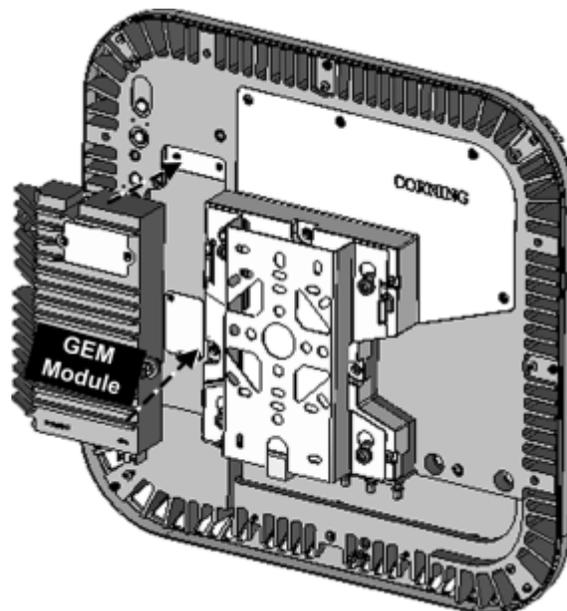

Figure 6-20. GEM Module Assembly
2. Plug GEM into the left side of the RAU, as shown in Figure 6-20 and secure (4) GEM screws.